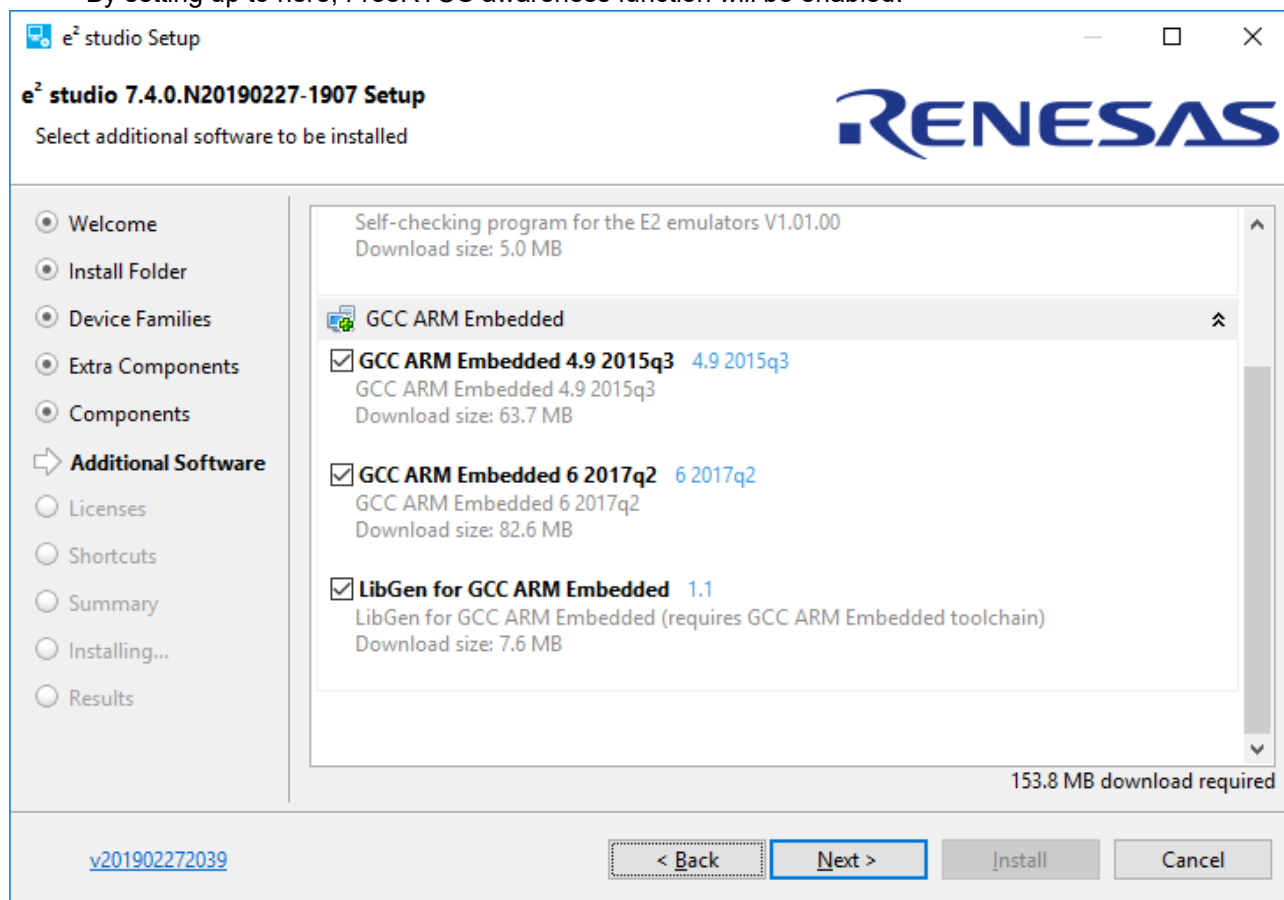

Figure 5-4 Adding FreeRTOS awareness function (new e² studio installation) 4
- Check “GCC ARM Embedded 6 2017q2” and “LibGen for GCC ARM Embedded” at “Additional Software” stage of install wizard. This is shown in Figure 5-4.